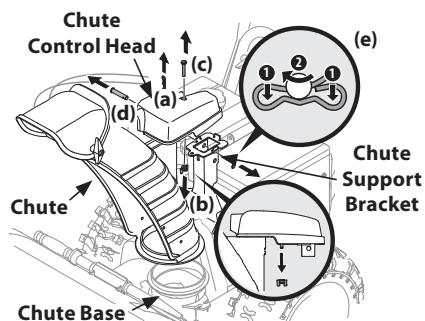

Figure 2-42
1. Remove cotter pin (a), wing nut (b) and hex screw (c) from chute control head. Remove clevis pin (d) and bow-tie cotter pin (e) from chute support bracket. See Figure 2-42.